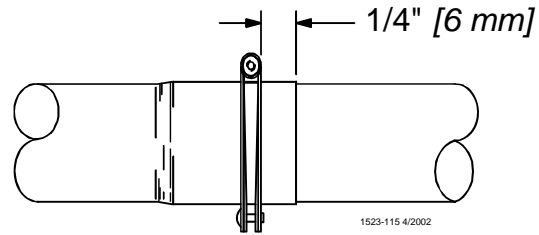

Figure 29. Assembling Feeders on the Tubes
Continue down the entire length of the feeder line so that every joint is secured with a standard Clamp or Clamp/Anti-Roost Bracket. **Figure 29** shows the proper clamp location on the tube joint. Do not tighten the clamp at this time.
10. make sure the clamps are located, as shown in **Figure 29**.